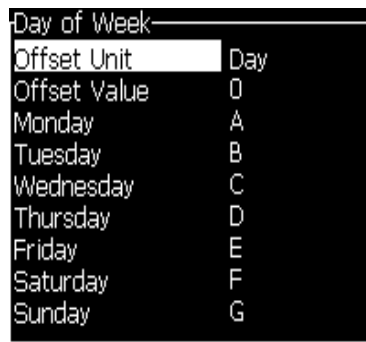

Figure 5-46: Encoded Day of Week
- 3 Select *Setup Encoded Day of Week* and press *Enter* to open the *Day of Week* dialog box (see Figure 5-46 on page 5-55).